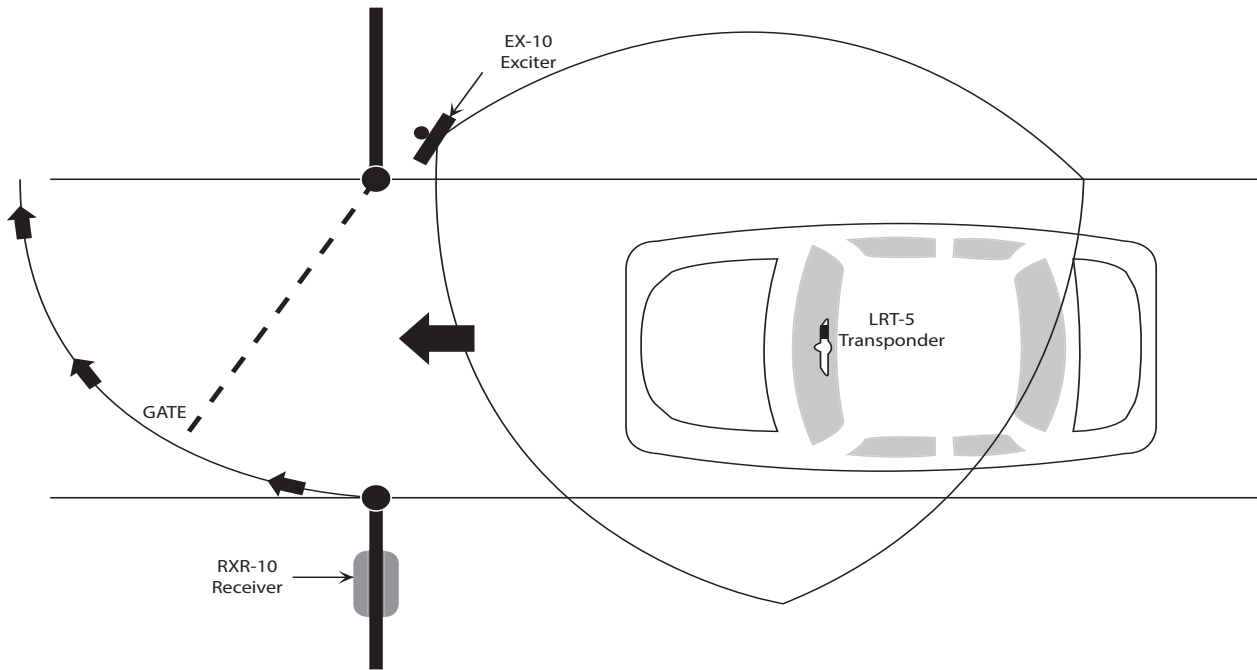
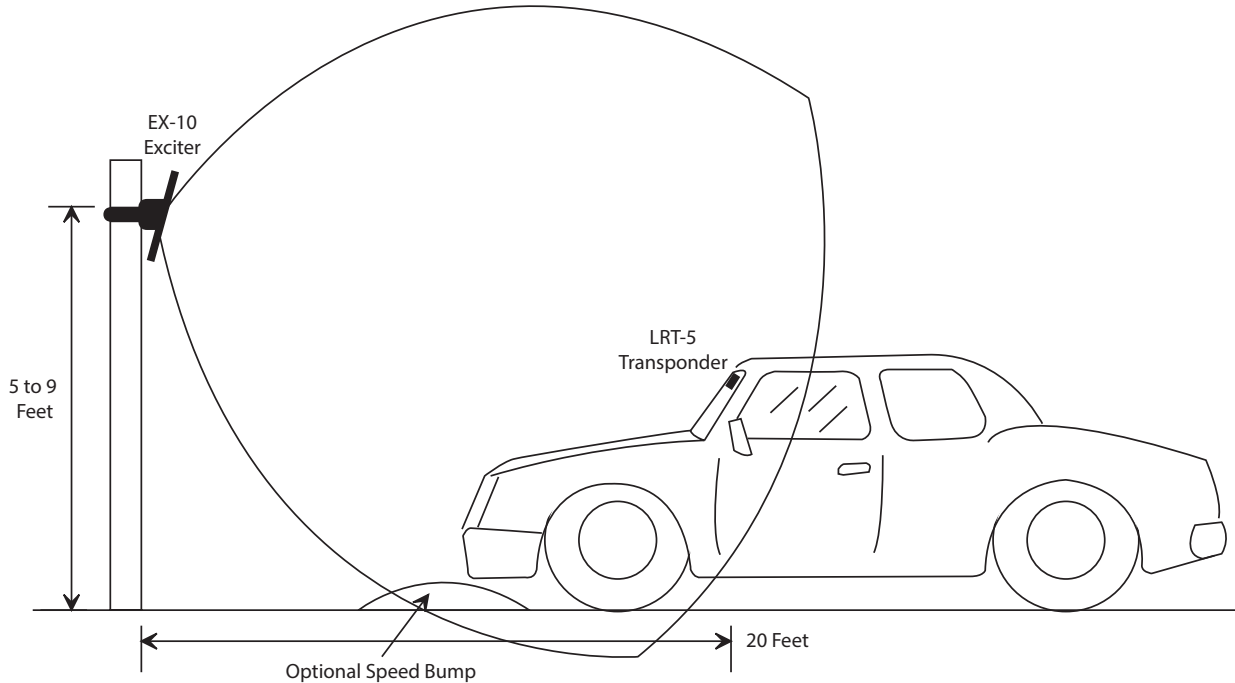
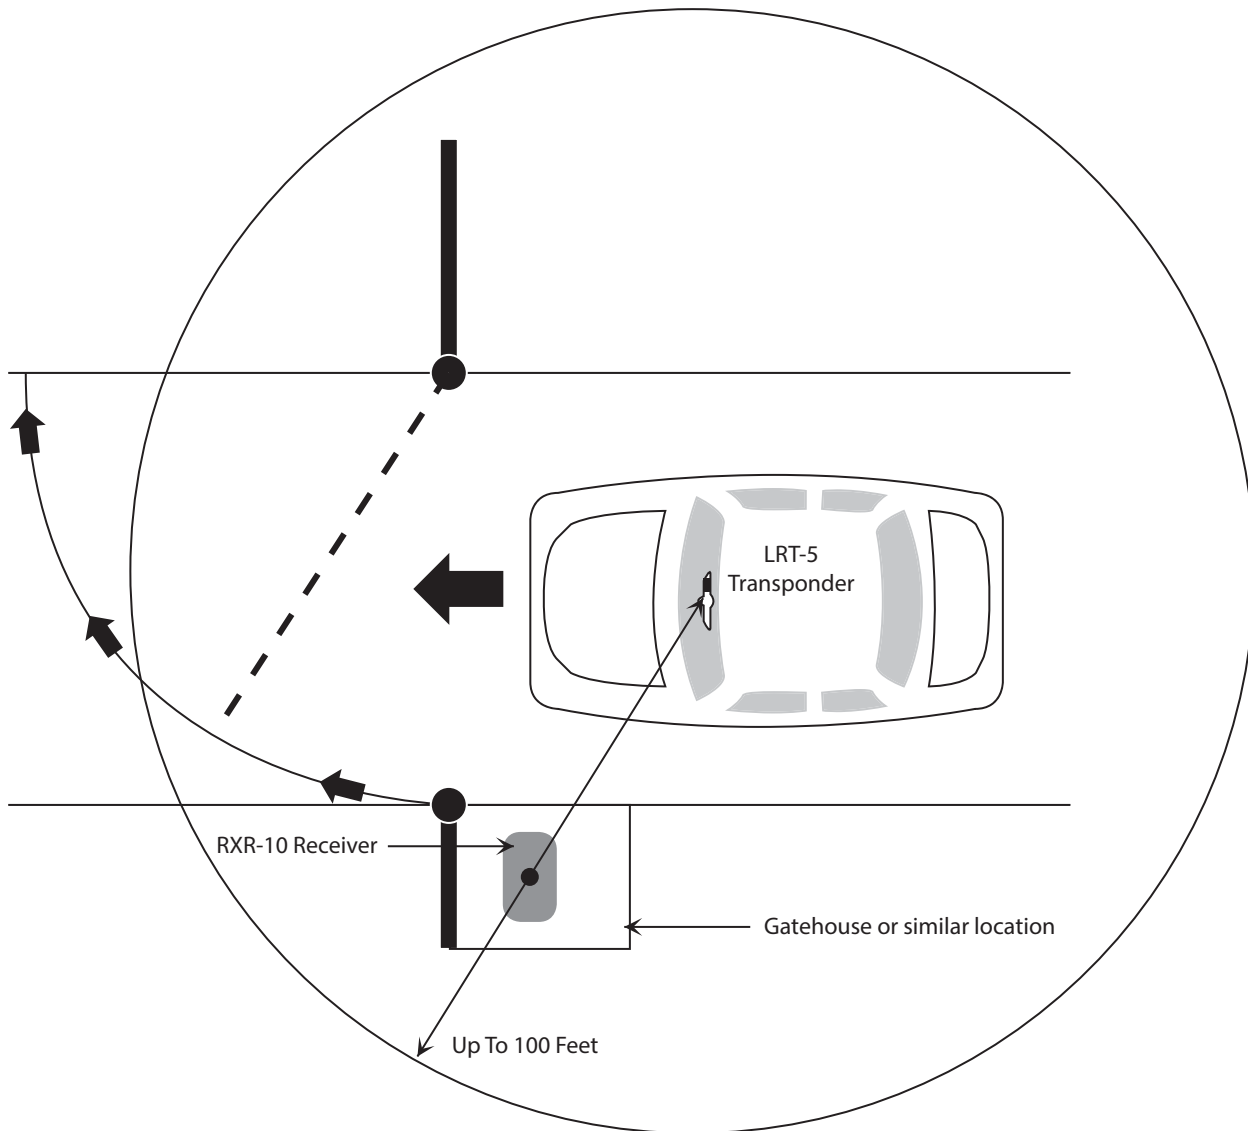

Figure 2: The Horizontal Antenna Coverage Pattern
Figure 3: The Vertical Antenna Coverage Pattern
Figure 5: RXR-10 Receiver Detection Pattern – 100 Foot Radius Circle
The horizontal orientation of the Exciter is set so that the center of the pattern is directed at the right edge of the road, which permits the left half of the detection pattern to cover most of the entry lane. Refer to Figure 2.
Vertical orientation is adjusted so as to aim the antenna at a spot about twenty feet (6.5 M) on the road from the Exciter. From this spot forward, the detection area will increase as you get closer to the gate. This is shown in Figure 3.
The Receiver range pattern is omnidirectional, a large, circular shape with a radius of up to 100 feet (30M). A typical mounting location is in a gatehouse for gated communities, or other enclosure, which makes it convenient to provide a data cable from the Receiver to the control unit. An external antenna can be installed if the Receiver is mounted in a difficult RF signal area. The LRT-5 Transponder sends its signal to the Receiver at 433 MHz so the detection pattern is very similar to that of a garage door opener or the remote unlock on your automobile. Cable type and run length are like any proximity reader and are specified below. The Receiver antenna detection pattern is shown in Figure 5.
6. If the LED functions between Transponder and Receiver are not consistent, there is a problem with signal coverage in the vehicle travel lane. Verify the Receiver is within 100 feet of the desired coverage area (see Figure 5) and the Exciter is properly oriented (see Figure 2 and Figure 3) to cover the vehicle travel lane.